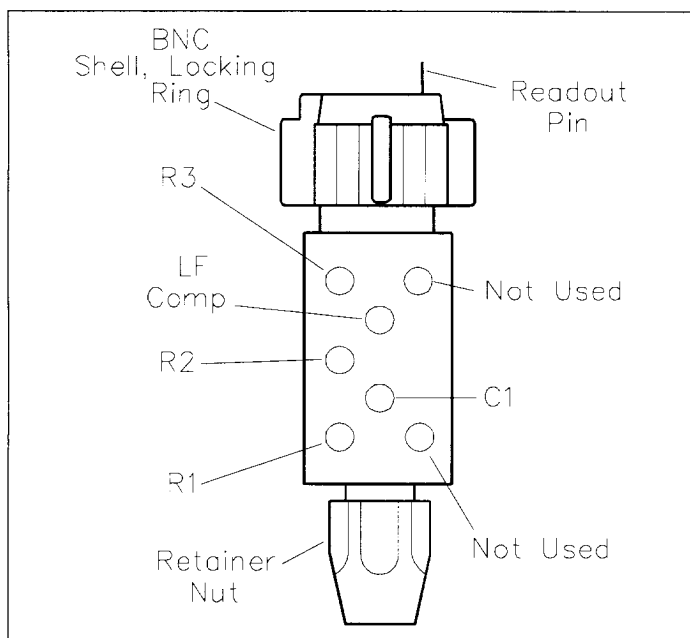
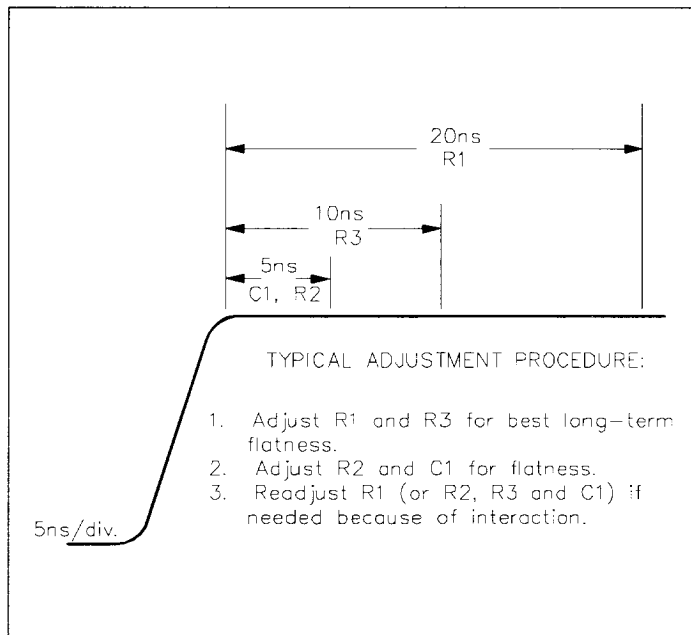

Figure 4. High-Frequency Adjustment Locations.
Figure 5. High-Frequency Adjustments Relative To Affected Areas Of The Waveform.
Refer to Figure 4 & 5 for Adjustment Locations and Control.
c. Disconnect the probe from the scope input and signal source. Remove the top cover from the compensation box using the enclosed adjustment tool. Reconnect the probe (as in part 2b). See Figure 4 for the location of all adjustments, and Figure 5 for identification of the waveform area affected by each adjustment.
d. Remove the probe from the BNC input, Then remove the top cover from the compensation box using the enclosed adjustment tool. Set Time/Div to 5 ns/Div for better resolution of adjustments. Refer to Figure 5. ADJUST R1 and R3 for the best overall flat response. ADJUST R2 and C1 for the best flatness and corner response. Readjust R1 (or R2, R3 and C1) as required. The high-frequency adjustments affect the probe bandwidth. A small overshoot on the leading edge of the pulse may be necessary to meet the bandwidth specification. Reinstall the compensation box cover by reversing the procedure described above.